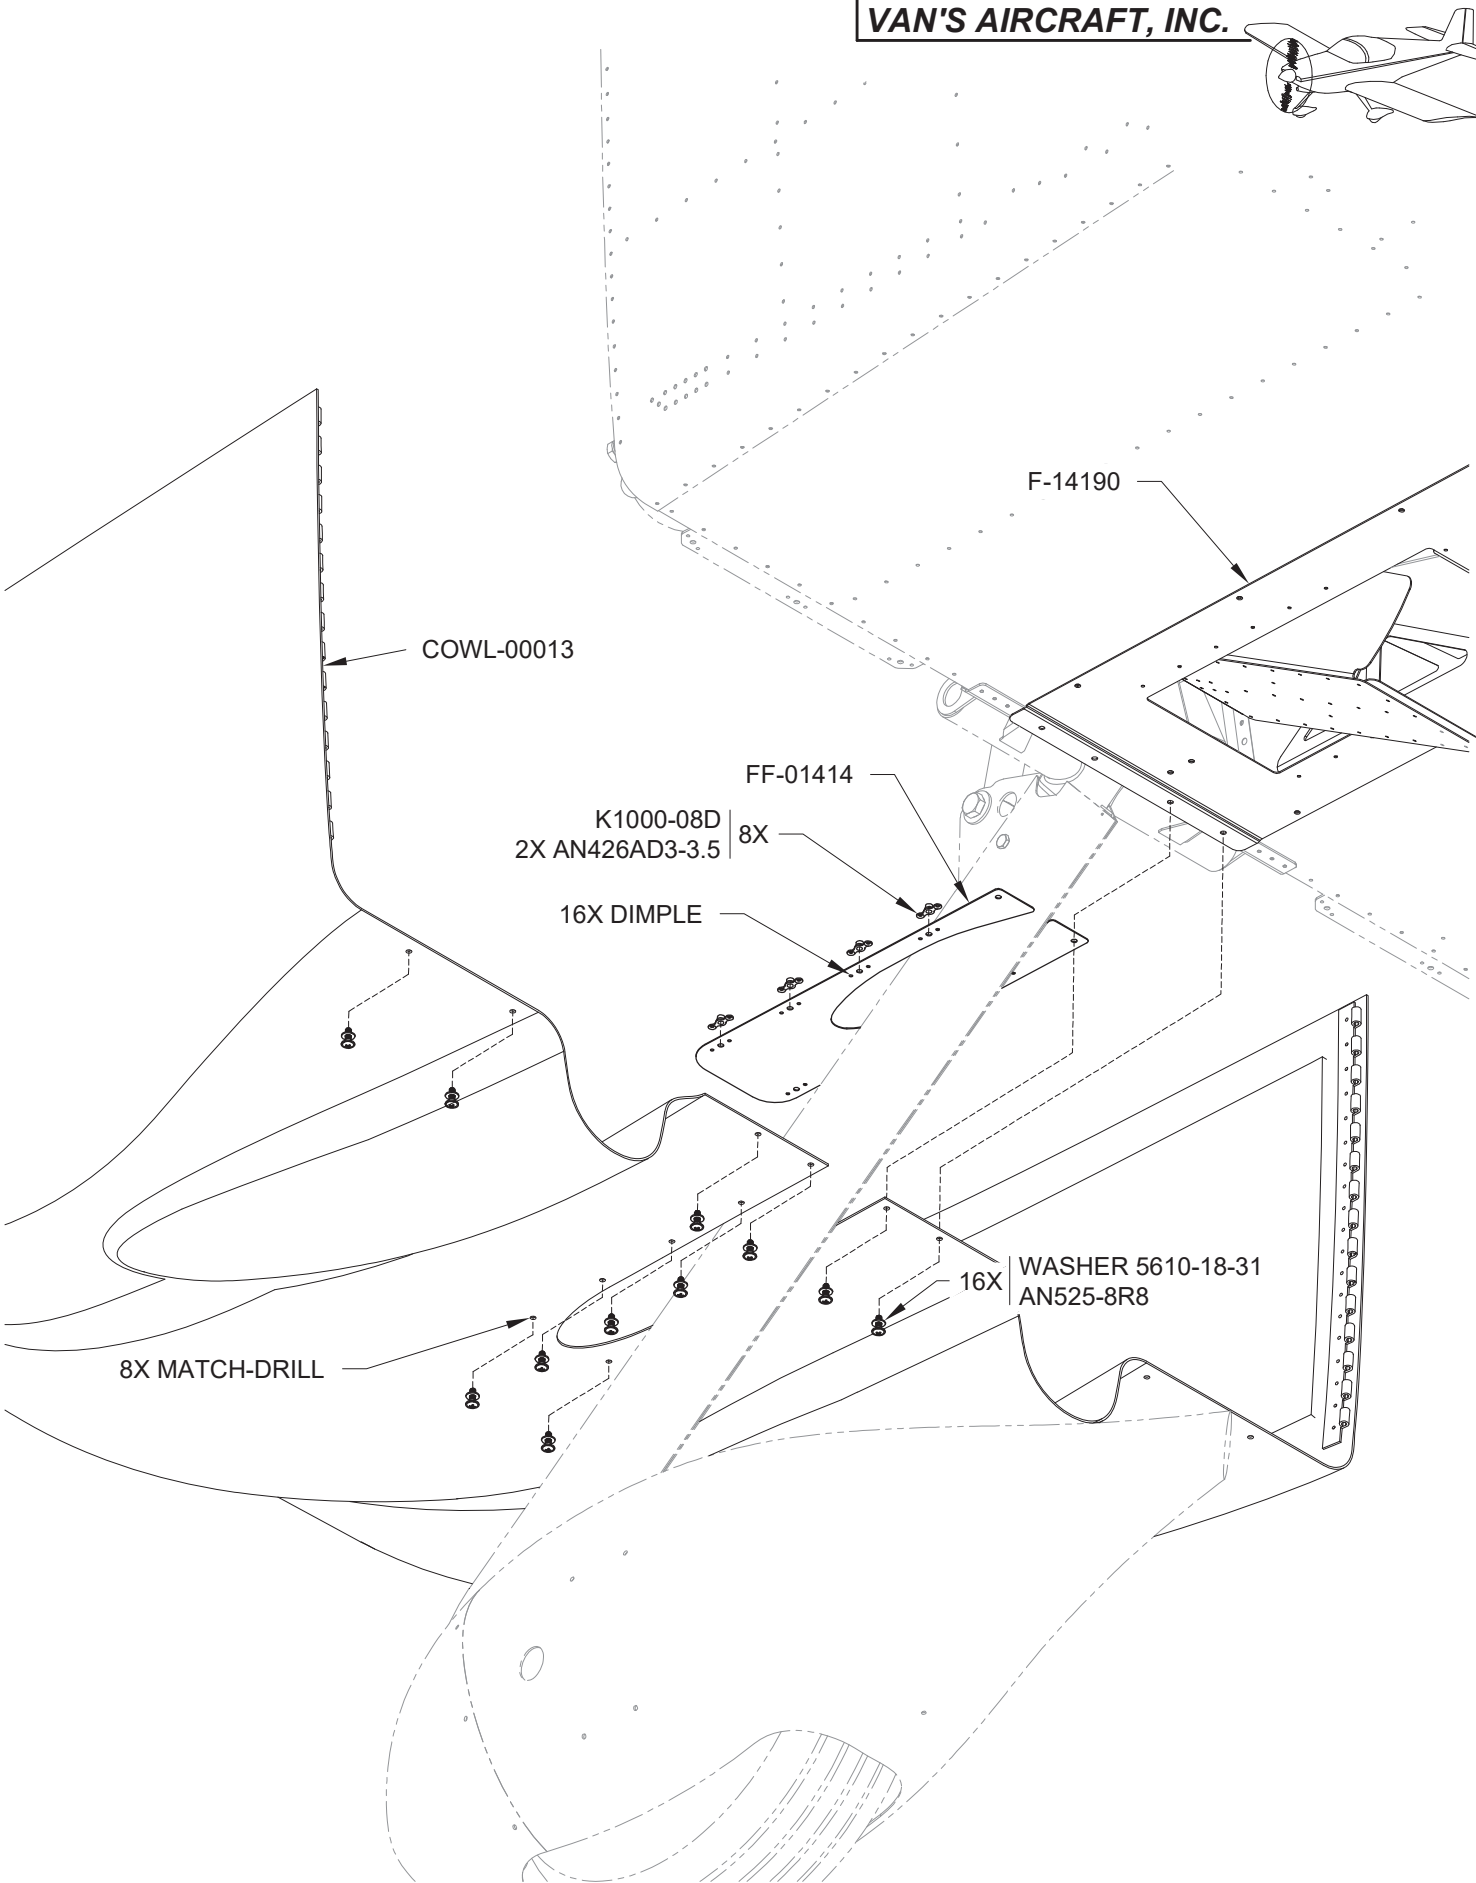

FIGURE 1A: X-OVER COWL CLOSE-OUT
Step 7: Rivet the nutplates to the FF-01414 as shown in Figure 1A.
Step 8: Install the COWL-00013 and FF-01414 on the aircraft. Attach the FF-01414 to the bottom cowl using the hardware shown in Figure 1A.
NOTE: The IO-390-EXP119 uses a different induction snorkel, shown in Figure 1A. Refer to KAI Section 47, Pages 47-01 through 47-14 to install the engine baffles.